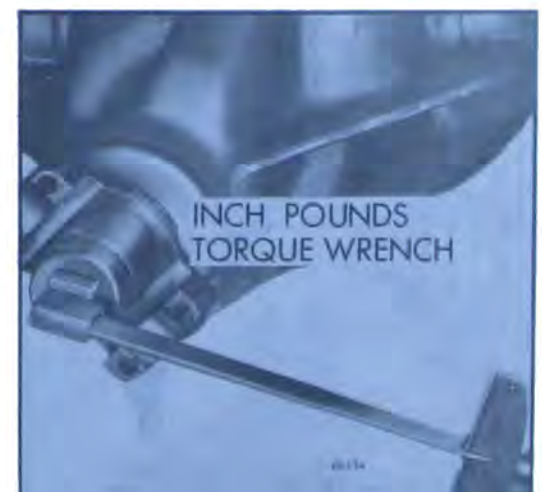

Figure 40-163—Checking Pinion Preload
9. Check preload by using an inch pound torque wrench as shown in Figure 40-163.
3. Rotate differential case assembly several complete turns to seat bearings. Check bearing preload using an inch pound torque wrench connected at pinion nut. Bearing preload should read 35-40 in. lbs. of rotating torque with new bearings or 20-25 in. lbs. of rotating torque with reused bearings. See Figure 40-163. If preload is not according to these specifications, increase shim thickness on each side .002" for each additional 10 in. lbs. preload desired or decrease shim thickness .002" on each side for each 10 in. lbs. preload to be subtracted.